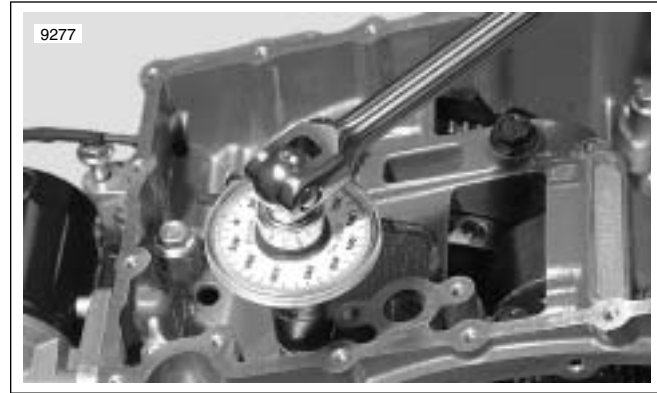

Figure 3-148. Torque Angle Gauge
- c. See Figure 3-148. Position the TORQUE ANGLE GAUGE (Snap-on™ Part No. TA360) per instruction sheet and tighten each bolt an additional quarter turn (+ 90°).